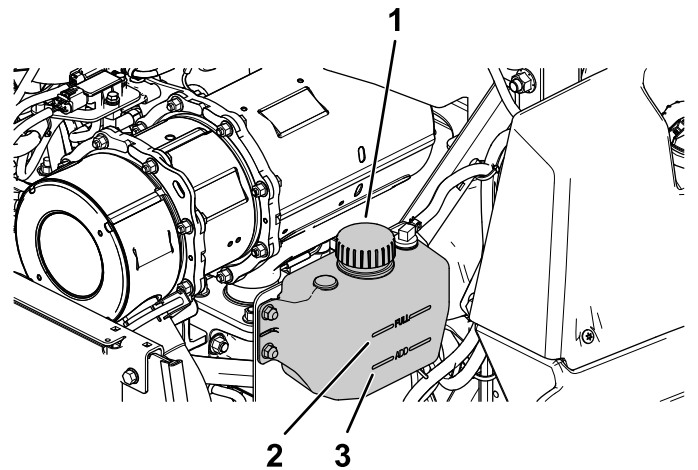

Figure 58
4. Check the level of the coolant in the expansion tank (Figure 58).
5. If coolant level is low, remove the expansion-tank cap, and add the specified coolant (Figure 58).